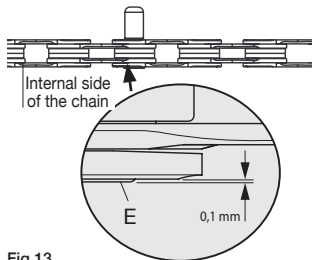

Fig.13
In order to minimize the possibility of damaging the chain irreparably, **DO NOT TIGHTEN** the tool beyond the beat. Let the bushing **ULTRA-LINK 5-CN-SR700 (E)** protrude 0.1 mm from the inner side of the chain (Fig. 13).